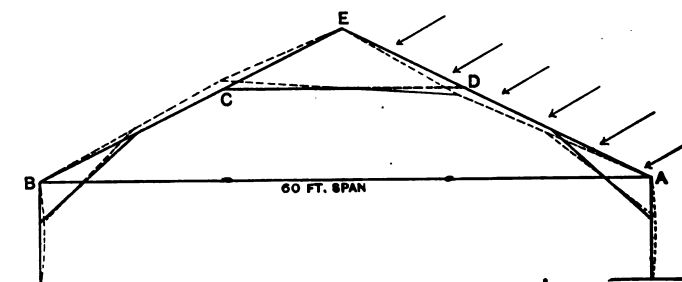

Fig. 5.—Skeleton of Truss, showing effect of strong wind blowing upon one side of the building.
*Note.*—For the purpose of starting the discussion we submitted the sketches of our correspondent to a civil engineer in this city, who furnishes the following in the way of comment. In what he has to say the strains and the breaking weights of certain pieces are given in order to make it more readily comprehensible to the average reader. There is also submitted a diagram, Fig. 5, showing a skeleton of the truss and illustrating the effects of sudden gusts of wind upon the structure. The writer is unable to say what weight this roof will support, but after a careful study and analysis of the problem he has come to the conclusion that a truss built as
The tie rod receives a pull of 26,500 pounds and its breaking strength is 26,880 pounds. Being a bar of considerable length, and unsupported throughout its entire length of 60 feet, its own weight will tend to produce an additional strain. The difference between the breaking weight and the actual strain is only 380 pounds. This difference is really wiped out when we consider that the tie rod is in three pieces, and hooked together as shown. The tie rod should have a sectional area of at least three times what it has and should be provided with turnbuckles and upset ends. Fig. 5 illustrates the manner in which this truss would act having a strong wind blowing against one side of the roof. As long as the load is distributed symmetrically on both sides of the truss no distortion is possible, but under the influence of unequal loading, as by wind pressure, the truss would take the form shown by the dotted lines. If the main